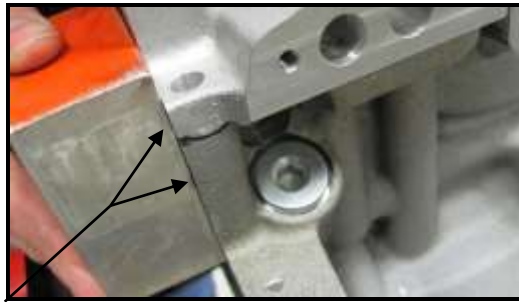

Figure 2
**IMPORTANT:** The oil pan on LS engines is a structural member. The alignment of the pan is critical to provide the proper mounting points for the transmission bellhousing. The rear of the oil pan must never protrude from the rear of the block. The rear of the block and oil pan are to be flush (Figure 2).